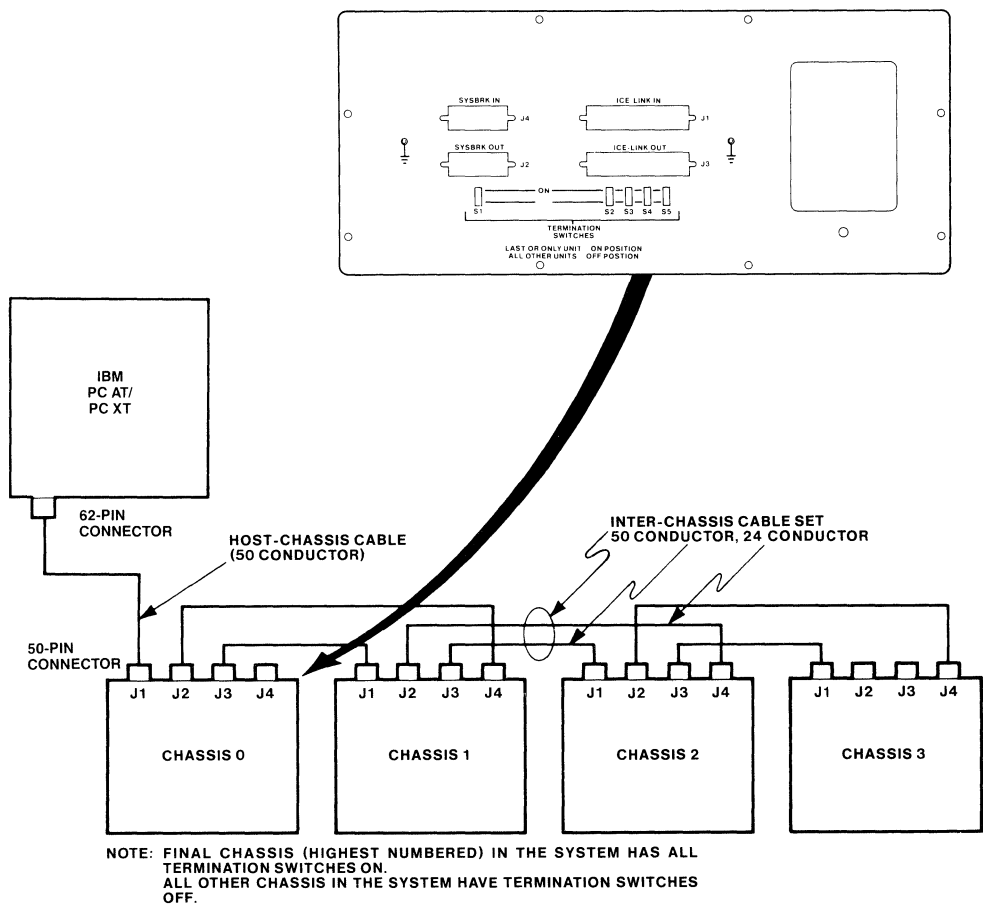

Figure C-10 I²ICE™ System Cable Installation
1. Plug the D-ribbon end of the host-chassis cable into the slot marked ICE-LINK IN on the I²ICE system back panel (Figure C-10). Tighten the two captive screws.
3. Install an inter-chassis cable set between each successive instrumentation chassis in the I²ICE system. Secure the cable ground wires to the chassis ground lugs, if present. Figure C-10 shows the proper cabling.
2. Verify that all host-chassis and inter-chassis cabling is properly routed and the cable connectors are seated and secured to the correct sockets (see Figure C-10).